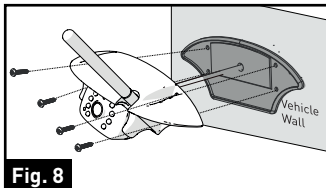

Fig. 8
8. Fix the gasket and bracket to the vehicle using four $\frac{3}{4}$ " flat self-tapping screws. Make sure the camera power cable is not damaged while attaching the device to the vehicle. (Fig. 8)